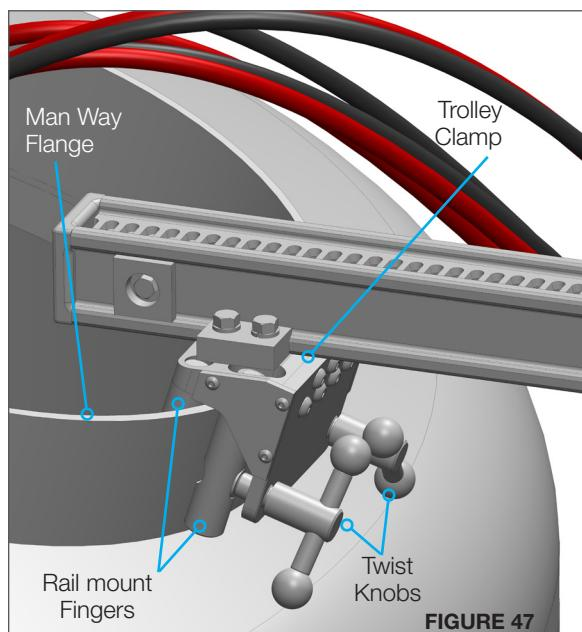

FIGURE 47
2. Center the man way flange between the Fingers of the Trolley Clamp and loosely tighten with the Twist Knobs. (**Figure 47**)